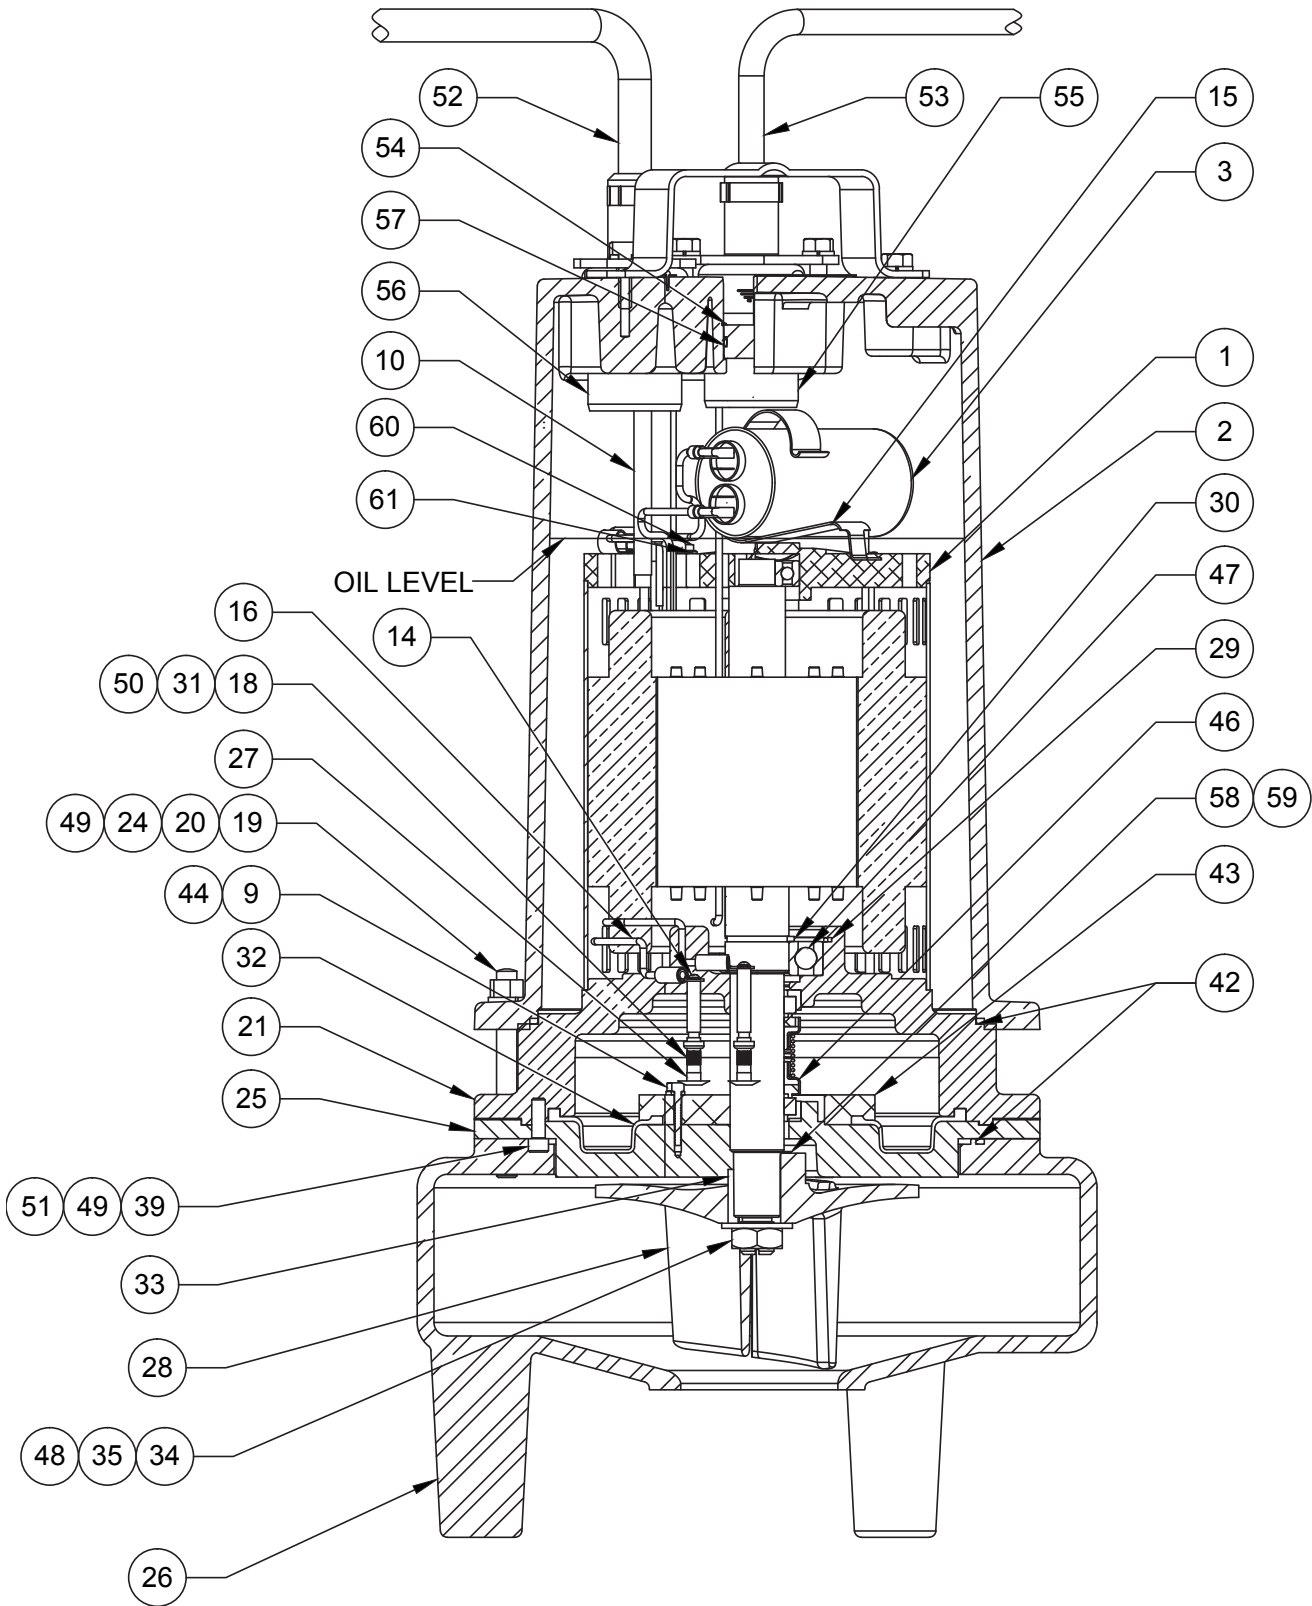

FIGURE 12
Check power cord (52) and sensor cord (53), for cracks or damage and replace if required. Make internal wiring connections which are independent of the terminal block as shown in (Figure 12), using connectors (11) and wire assemblies (12) as required. Do not use wire nuts. Slip motor leads and ground wire through fiberglass sleeve (10). Lower motor housing (2) down onto bearing bracket (21) while aligning holes and stringing motor leads through the cable entry bore(s). (Slipping cords inside a 1 ft. length of .5"